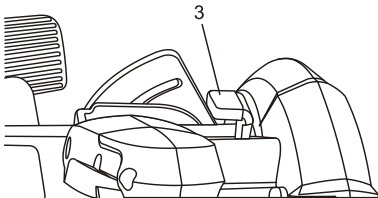

Fig. 2
4. Pressing on the blade locking lever (3) slowly rotate the blade until the locking lever engages the spindle (Fig. 2).